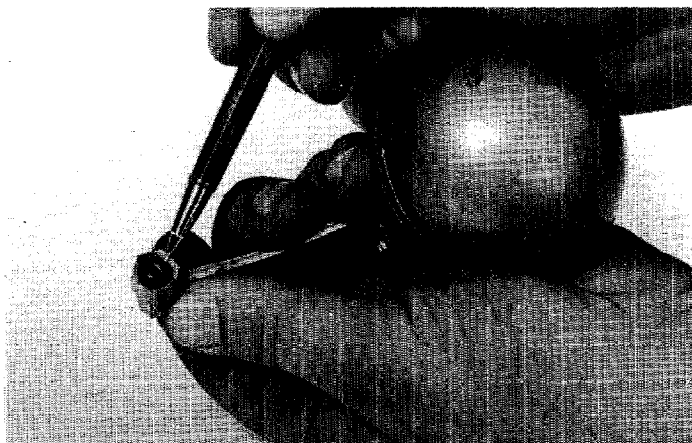

FIGURE 29 - Viton Valve
- f. Examine the rubber valve identified in Figure 29; if it is cracked or hardened, replace it.